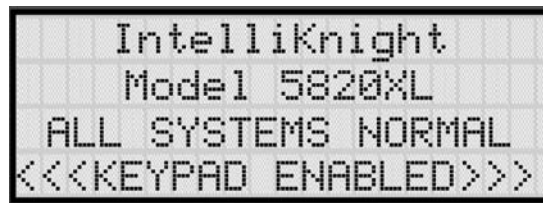

Figure 6-7 Keypad Enabled Screen
2. The display prompts you to press the the right arrow or ENTER key to bring up the Installer Main Menu. (See Figure 6-7).